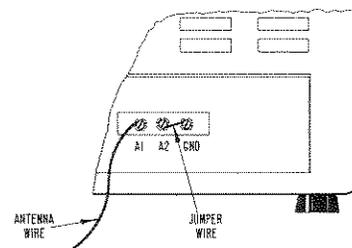

Fig. 4. Single Wire Antenna
**Single-Wire Antenna.** The simplest antenna and one which will provide satisfactory performance throughout the entire tuning range is a conventional single-wire antenna. In most localities, satisfactory results can be obtained with just the 15-foot antenna wire included with the receiver. Simply attach one end of this wire to terminal "A1", connect the jumper wire between "A2" and "GND", and run the wire about the room in any convenient manner. (See Fig. 4.)